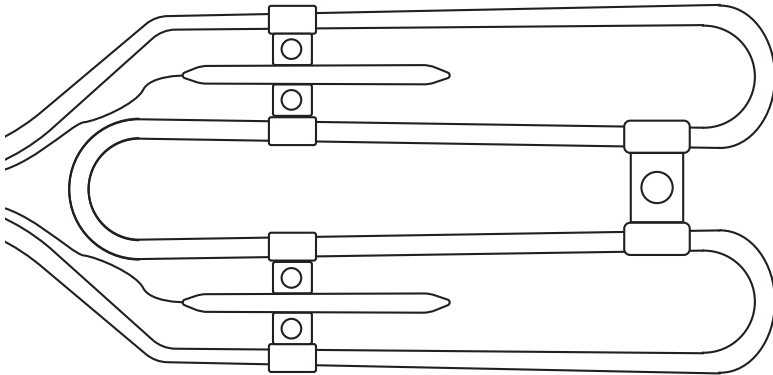

Fig. 1
- CAUTION: Be careful not to disturb the thermostat and high limit capillaries when cleaning down inside the tank. (Fig. 1)